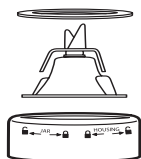

Figure 5
1. Carefully place the Blade Assembly into the Collar, under all grooves, making sure it sits at the bottom of the Collar. (See Figure 5.)